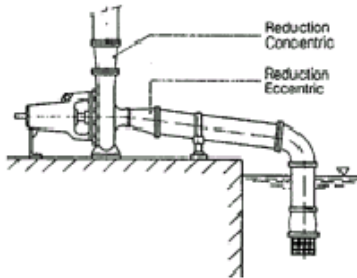
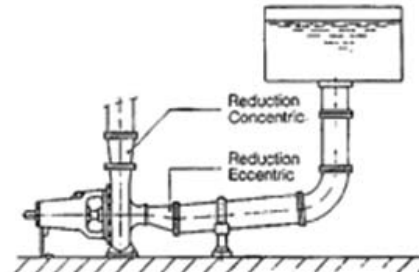

Figure 10 – Negative suction and reducers
Figure 11 – Positive suction
- c) If the sump connection is at a different level than the pump inlet, the suction piping should be installed with a gradual rise slope to the pump. Avoid sharp bends and restrictions. Be certain the suction pipe is properly supported to keep excess loads off the pump flange and casing. (See Figure 10 and Figure 11)
- e) If a reducer is used to change diameter, it should be eccentric, mounted with its taper facing downwards, to prevent air pockets. (See Fig. 10)
- b) When the diameter of the pump and pipe are different, the connection should be made through a concentric reduction. (See Figure 10)